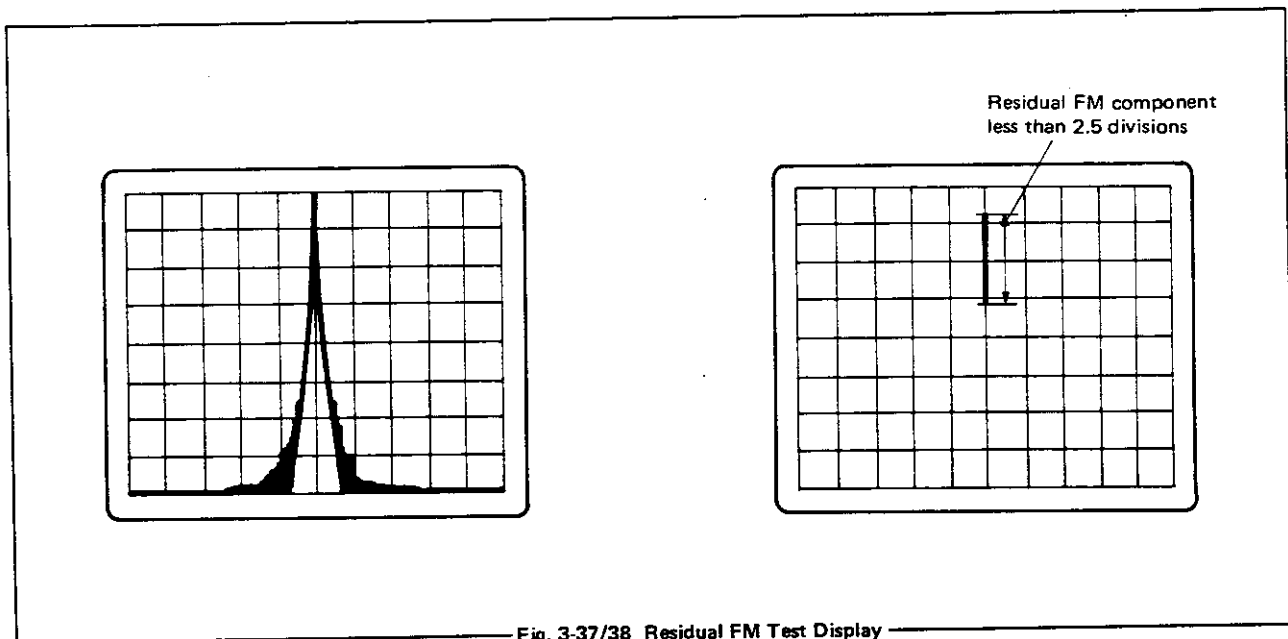

Fig. 3-37/38 Residual FM Test Display
- (1) Reset specific controls from the initial settings (Para 3-3-1-(3) ) as follows:
- (2) Correspond the zero frequency peak to the horizontal top line by **IF GAIN** (Outer and Inner) and **IF GAIN-CAL.** [Fig. 3-37]
- (3) Set **SCAN MODE** to **MANUAL** Center the bright spot on the display by **MANUAL SCAN**.